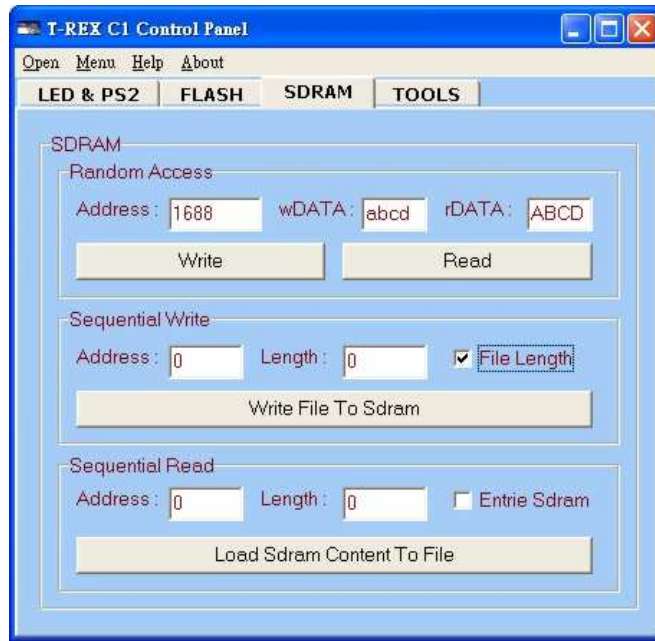

Figure 6.8. The SDRAM Controller Panel
1. Please refer to Figure 6.8. Click on Button SDRAM to switch to SDRAM Control Page.
4. You can also load a file into SDRAM by using Sequential Write function. Please refer to Figure 6.8. You have to specify the starting address and the length (in bytes) to be written into the SDRAM.
6. Sequential Read function allows you to read the content in SDRAM and save into a file. Figure 6.8 shows the screen capture of the Sequential Read. You can also specify the starting address and the length (in bytes) to read from the SDRAM. By clicking on the “Entire SDRAM” checkbox, you are indicating that you would like to load entire SDRAM (8Mbyte) into a file specified by you.